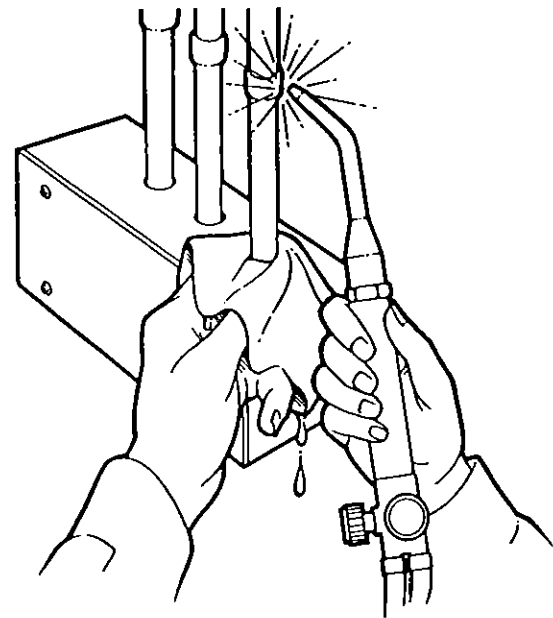

FIG. 7 — MINIMIZE OVERHEATING OF VALVE
2. Install the back box at the specified height in a roughed-in wall. (See Fig. 7) Fasten it securely to the metal framing. Note the finished wall line label and *make sure the box is flush with the finished wall surface*. Contractor is reminded to co-ordinate with other trades in anchoring alarms rigidly into the wall. It is not sufficient to simply grout them in. **NOTE: Finished wall line must be exactly defined.** The mounting brackets are adjustable. Loosen nuts from inside the box. (**CAUTION: Nuts are not captured. Do not back off.**) Sides of box must be adjusted out from the wall to allow clearance for the frame/window assy.